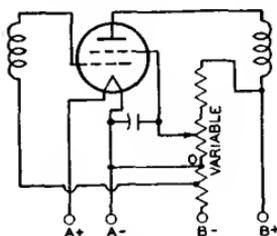

Fig. 73
The positive voltage for the screen (grid No. 2) of screen-grid tubes may be obtained from a tap on a voltage divider, from a potentiometer, or from a series resistor connected to a high-voltage source, depending on the particular tube type and its application. The screen voltage for tetrodes should be obtained from a voltage divider or a potentiometer rather than through a series resistor from a high-voltage source because of the characteristic screen-current variations of tetrodes. Fig. 73 shows a tetrode with its screen voltage obtained from a potentiometer. When pentodes or beam power tubes are operated under conditions where a large shift of plate and screen currents does not take place with the application of the signal, the screen voltage may be obtained through a series
**Screen-voltage variation** for the rf amplifier stages has sometimes been used for volume control in older-type receivers. Reduced screen voltage lowers the transconductance of the tube and results in reduced gain per stage. The voltage variation is obtained by means of a potentiometer shunted across the screen voltage supply. (See Fig. 73.) When the screen voltage is varied, it must never exceed the rating of the tube. This requirement can be met by providing a fixed stop on the potentiometer.